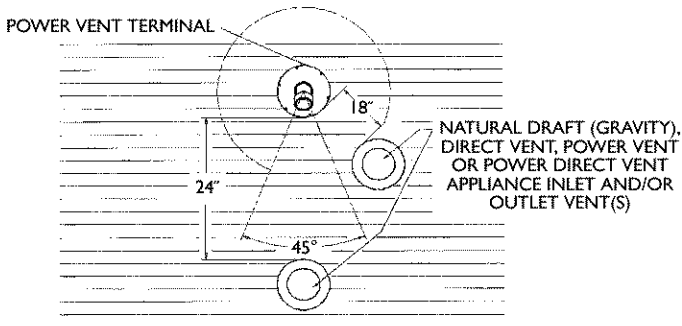

Figure 3c
- 18" minimum from other natural draft (gravity) direct vent, power vent or power direct vent appliance inlet and/or outlet vent(s) when directly above or 135° to either side of center line. Figure 3c.
- 24" minimum from any appliance inlet and/or outlet vents when directly below or 45° to either side of center line. Figure 3c.